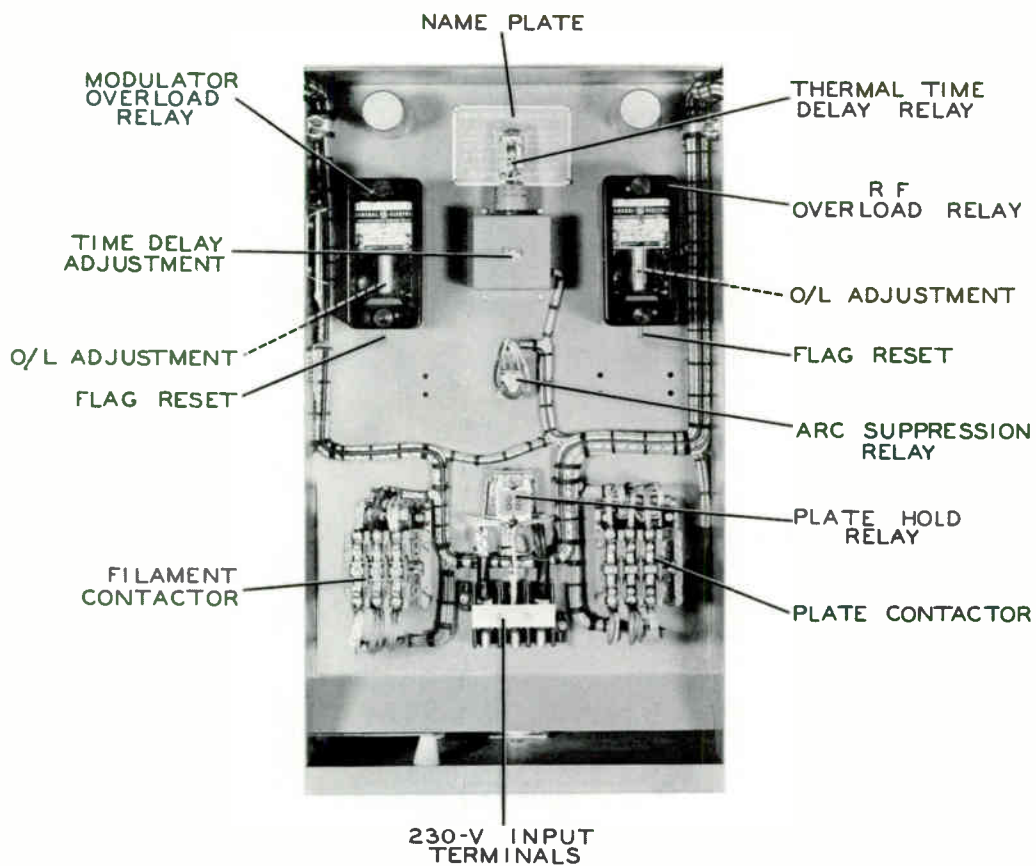

Figure 3-2. Relay Panel Controls
3.2. TIME DELAY (See figure 3-2.)
To change the setting of the power amplifier overload relay, (See figure 3-2) remove the relay cover, turn the transmitter on and load it to operating values. Gradually change the setting of the thumbscrew in the relay and momentarily run the power amplifier off tune and watch the PA plate current meter. Set the thumbscrew at the desired drop-out point, retune to resonance and replace the relay cover. Reset the flag by pressing the plunger at the bottom of the relay.